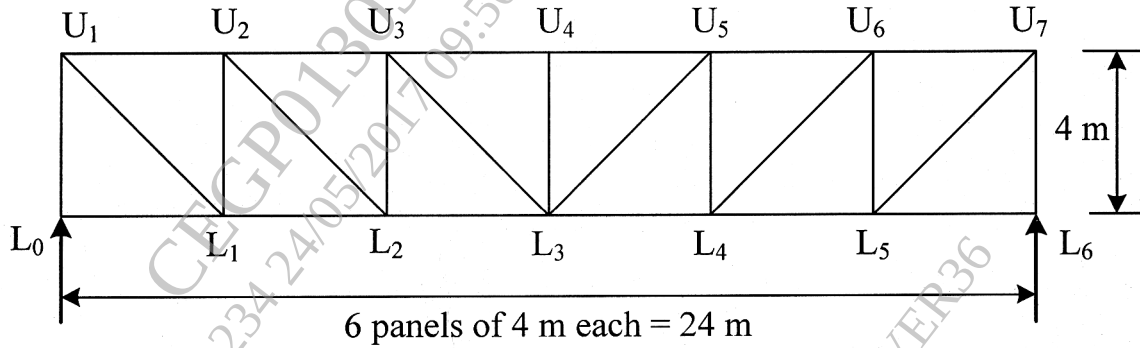

Fig. 3
- (b) Draw influence line diagrams for forces in the members U_2U_3 , L_2U_3 and L_2L_3 of the through type bridge truss of height 4 m as shown in Fig. 3 : [6]